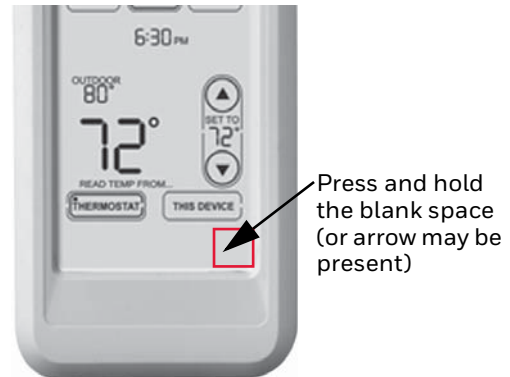

Fig. 311.
1. Press and hold the blank space (or arrow) in the lower right hand corner of the screen until the display changes (hold for about 4 seconds). See Fig. 311.